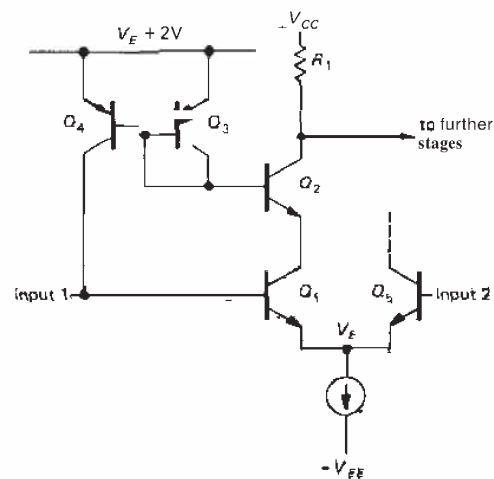

Figure 2.83. Base-current cancellation scheme, commonly used in high-quality operational amplifiers.
(8) Several commercially available precision op-amps (e.g., the venerable OP07 and the recent LT1012) use the circuit in Figure 2.83 to cancel input bias current (only half of the symmetrical-input